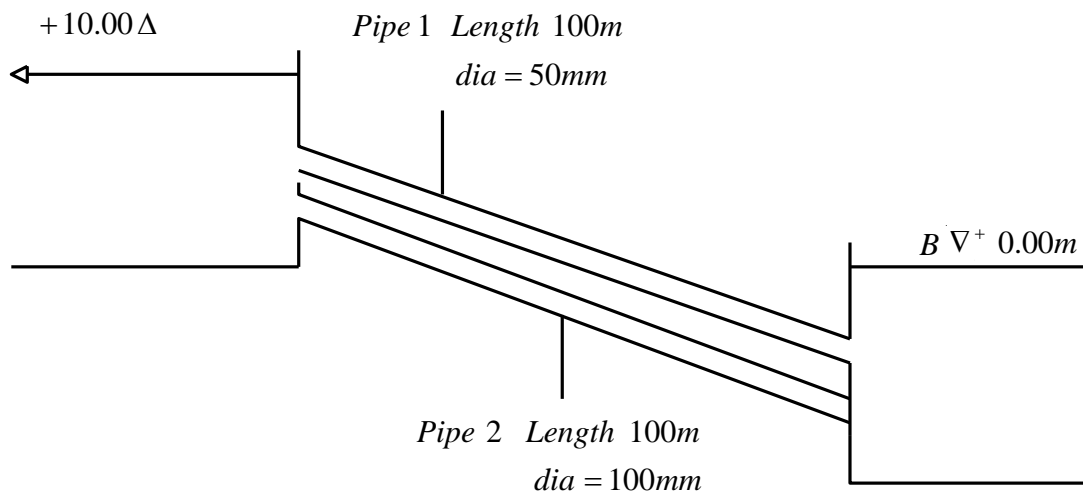

Fig. 3
- (b). Two pipes of dia 50mm and 100mm respectively connect two large tanks A & B. The difference in water levels and lengths are shown in fig. 3. If the coefficient of friction $f = 0.008$ for both pipes, calculate the rate of flow from tank A to tank B. **(7 Marks)**